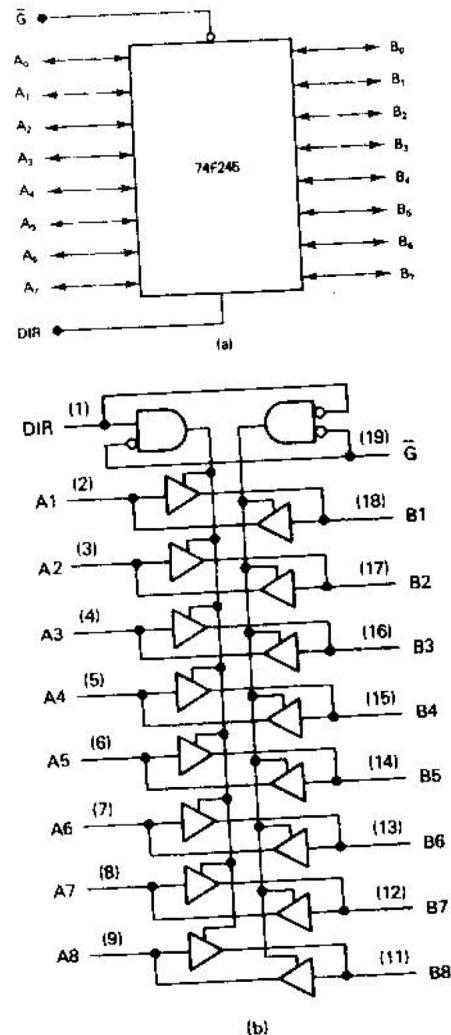

Figure 9.30 (a) Block diagram of the 74F245 octal bidirectional bus transceiver. (b) Circuit diagram of the 74F245. (Courtesy of Texas Instruments Incorporated)
- Data bus transceiver/buffer (Fig 9.30, 9.31)